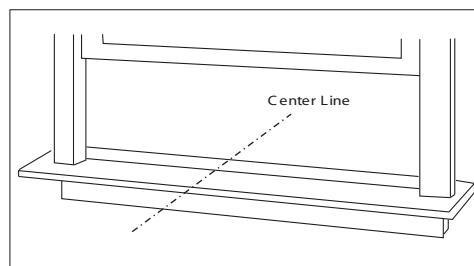

Fig. 4
4. Measure the inside window sill width and find the center line as shown in Fig. 4.